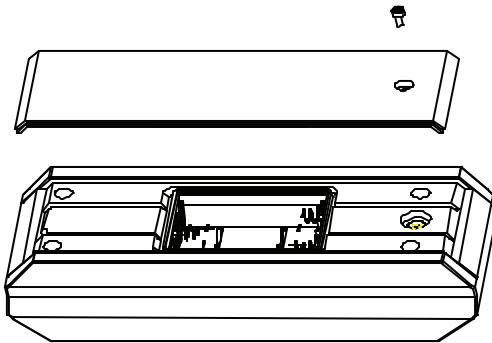

Figure 3
- 2) Screw off the bolt (as figure 3), remove the old batteries, and install the new ones.